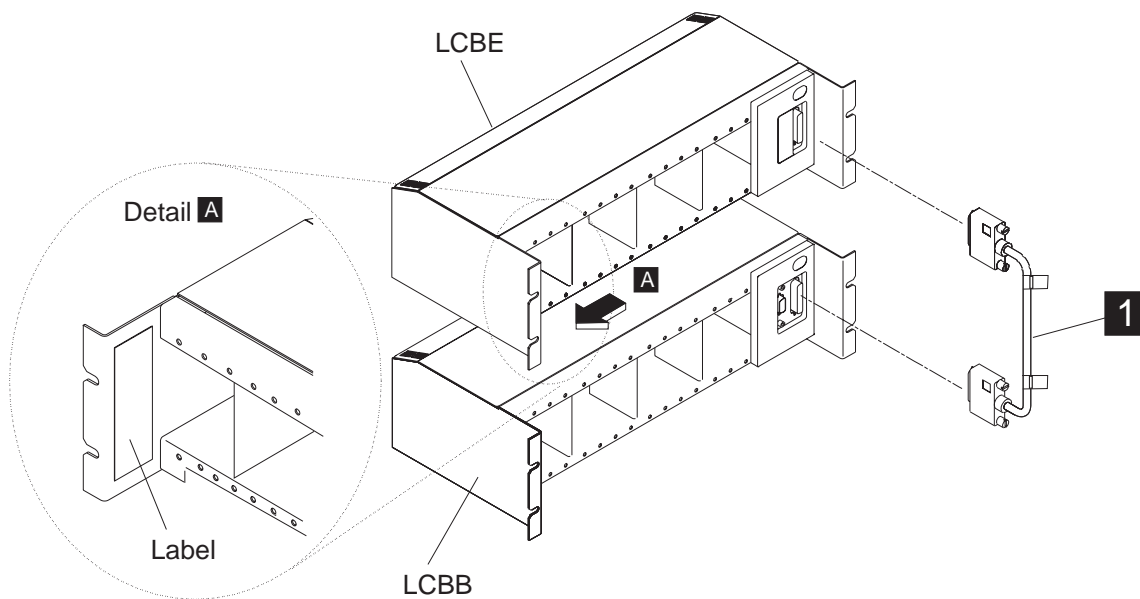

Figure 11-8. LCB Labelling and Connecting LCBB to LCBE.
9. **Stick** the label on the LCB (see detail **A** in Figure 11-8).
10. If you have installed one LCBE, **install** cable (PN 17G5789) between the LCBB and the LCBE. This cable is part of the LCBE shipping group (see cable **1** in Figure 11-8).